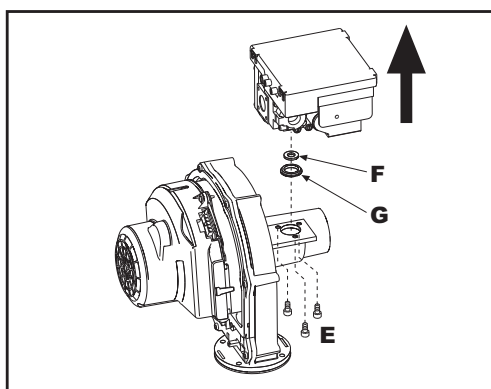
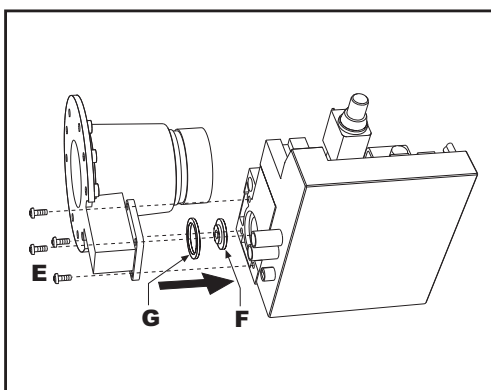

fig. 32 - model ENERGY TOP W 70 - W 80
fig. 33 - model ENERGY TOP W 125
7. Undo the fixing screws "E" (fig. 32 model ENERGY TOP W 70 - W 80 and fig. 33 model ENERGY TOP W 125) and remove the gas valve.
8. Replace the gas nozzle "F" (see fig. 32 for the model ENERGY TOP W 70 - W 80 and fig. 33 the model ENERGY TOP W 125) with the one contained in the conversion kit, positioning it inside the seal "G". Refit the parts and check the tightness.